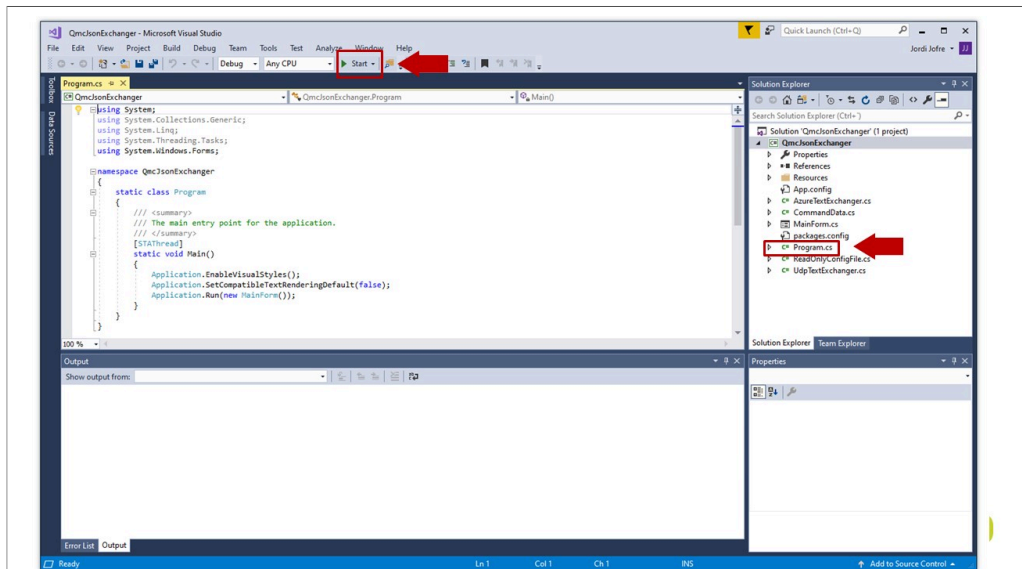

Figure 65. Build QMC JSON Exchanger application
3. The Visual Studio project solution will be opened. To build and run the QMC JSON Exchanger application, open the file **Program.cs** in the Solution Explorer panel and click on the Start button in the top menu, as shown in Figure 65: